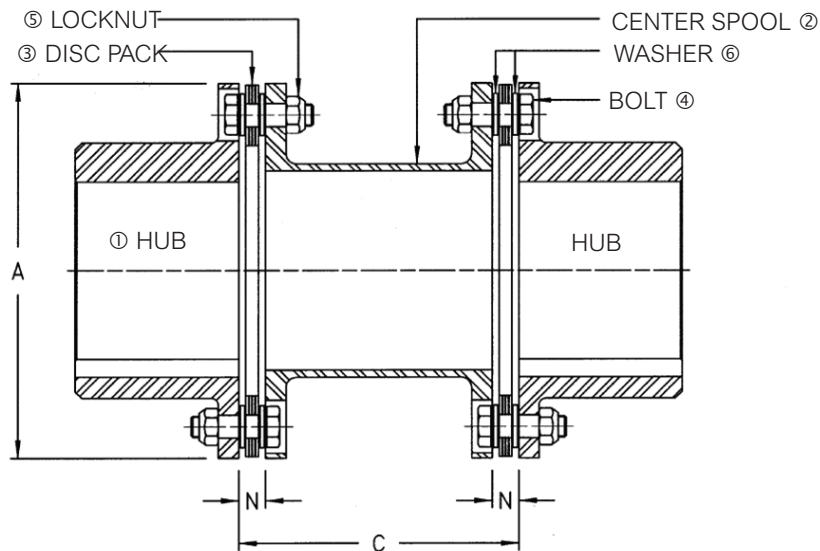

Figure 3 - Thomas Series 52 Cross Sectional View of Components
- 2.6. For ATEX requirements the guard must have a minimum of 12.7 mm (1/2 inch) radial clearance to the coupling outside diameter "A" (see Figure 3 and Table 3) and allow for proper ventilation.